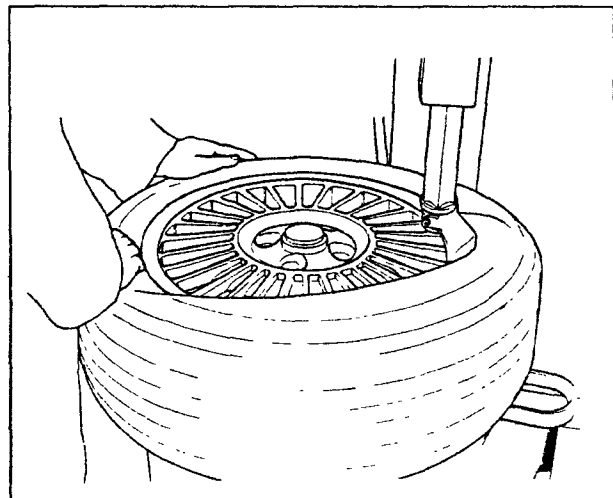

Fig.13
G. Rotate the turntable clockwise and at the same time push down on the tire sidewall to move the bead into the drop center of the rim (Fig.13).